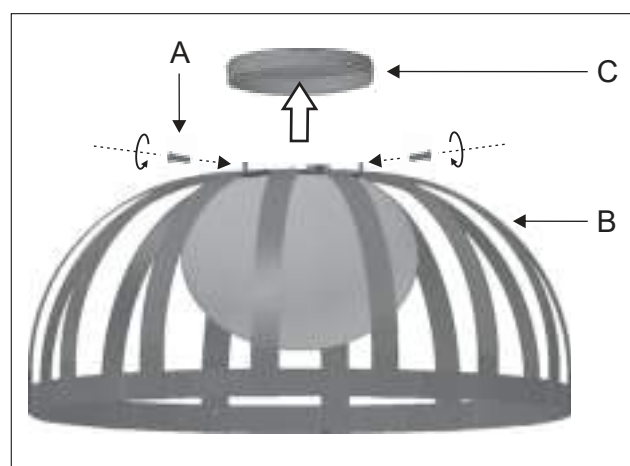

Figure 3
3 - Screw back the screws (A) to fix the product (B) to the mounting bracket (C). Figure 3.